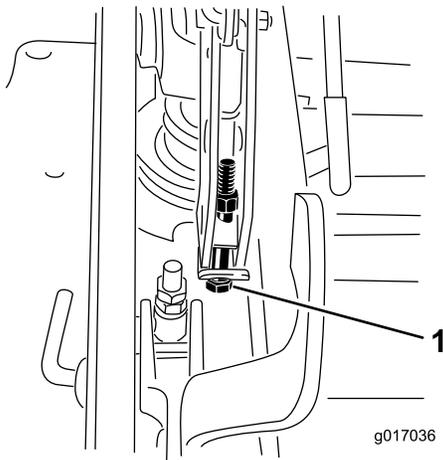

**Figure 116**
**Note:** For rear-discharge machines, the mower deck is attached in the back holes at the factory. Refer to Figure 116. If needed, use the front holes for further adjustment when leveling the mower deck.